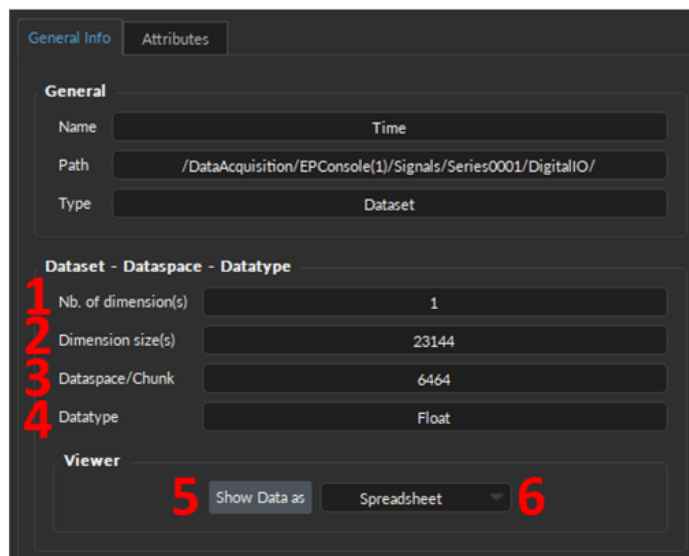
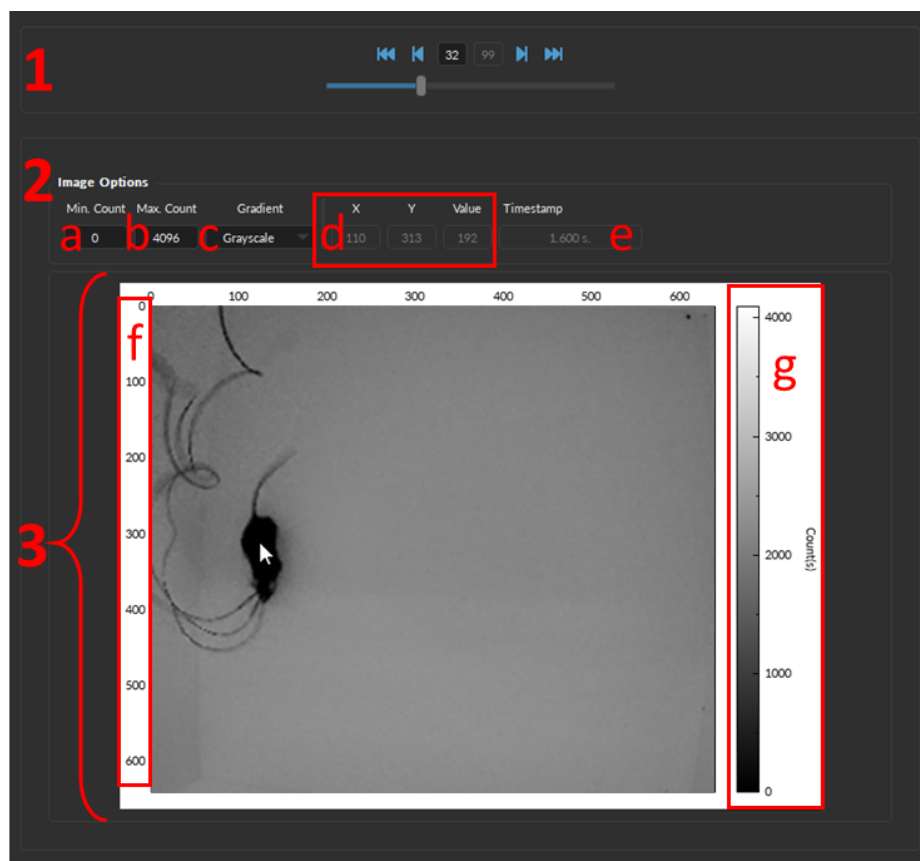

Figure 13.41: General Info tab, Dataset Viewer
Figure 13.43: Dataset Viewer: image data
To view the data stored within a **Dataset**, select it from the **File Manager** and click on the **General Info** tab (Fig. 13.25). In addition to having a **General** box (Section 13.3.1), **Dataset** have a **Dataset** box (Fig. 13.41), which displays the parameters and the button required to view either a subset or the entire raw data.
The following elements are contained within the **Dataset Info** box (Fig. 13.41):
1. The **Number of dimension(s)** (Fig. 13.41, 1) describes the number of dimensions that form the dataset. A *vector* has a dimension of 1, *images Stack* and *video* have a dimension of 3.
2. The **Dimension size(s)** (Fig. 13.41, 2) describes the length of the dataset (*i.e.* the number of rows) for *vector* data. For *images Stack* and *video* it is the width x height x # frames.
3. The **Dataspace/Chunk** (Fig. 13.41, 3) is the value used to reduce the data when displaying it in the **Data Viewer** (Fig. 13.43) using the **Spreadsheet Chunked** setting (Fig. 13.41, 6). This setting speeds up the data loading process, which is particularly useful for quickly checking the values. The software automatically generates the **Dataspace/Chunk** value based on the dataset's size.
4. The **Datatype** (Fig. 13.41, 4) displays what kind of numerical value is used within the dataset (*e.g.* float, integers, etc.). The *float* type is the most common of *Doric Lenses* acquisition devices. *Integers* are used for images and videos.
5. The **Show Data as** button (Fig. 13.41, 5) opens the **Data Viewer** window (Fig. 13.43) for a quick view of the selected dataset. Section 13.5.2 describes the features of the window.
6. The **Spreadsheet** drop-down list (Fig. 13.41, 6) allows users to select the viewing mode, including:
- *Image* - displays the raw images in the **Dataset Viewer** window (Fig. 13.43).
For vector data (Fig. 13.42), a column vector with the number of rows matching either the **Dimension size(s)** (Fig. 13.41, 2) or the **Dataspace/Chunk** (Fig. 13.41, 3) parameter. The column header will always be the **Name** (Fig. 13.26, 1) of the **Dataset**. Note the **Frame Control** box (Fig. 13.43, 1) is inactive for data with a **Number of Dimension(s)** lower than three.
For image data (Fig. 13.43):
- a) The **Min. Count** (Fig. 13.43, 2a) sets the minimum pixel value of the gradient that will be displayed in the image. Thus, all pixel values lower than the **Min. Count** will be displayed as the minimum pixel value color.
- b) The **Max. Count** (Fig. 13.43, 2b) sets the maximum pixel value of the gradient that will be displayed in the image. Thus, all pixel values higher than the **Max. Count** will be displayed as the maximum pixel value color.
- c) The **Gradient** (Fig. 13.43, 2c) sets the type of color gradient the pixel values will represent in the image below. Twelve gradient options are available, including *Grayscale*, *Thermal*, and *Spectrum* to name a few.
- d) The **Cursor Coordinates** (Fig. 13.43, 2d) displays the x and y coordinates, and the pixel value of the cursor within the image (Fig. 13.43, 3 - arrow).
- e) The **Timestamp** text-box (Fig. 13.43, 2e) displays the time associated with the image (Fig. 13.43, 3). Changing the **Current Frame Number** using the **Frame Controls** (Fig. 13.43, 1) will automatically change the value of the **Timestamp**.
- f) The **X & Y Axes** of the image (Fig. 13.43, 3f) displays the scale and resolution of the image. The axes begin at 0 and end at the value of the image pixel width and height (respectively) corresponding to the **Dimension size(s)**. The x and y coordinate of the cursor within the image will always be within this range of values (Fig. 13.43, 2d).
- g) The **Gradient bar** (Fig. 13.43, 3g) displays the color associated with the pixel value (Count(s)).